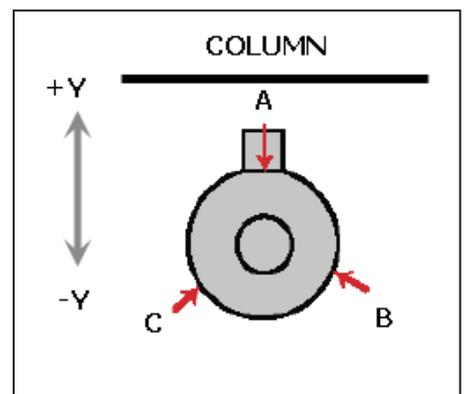

Figure 8.24
- a. Orient the probe in the spindle so one of three adjustment screws is opposite the machine column (see Figure 8.24). Label this Screw A.